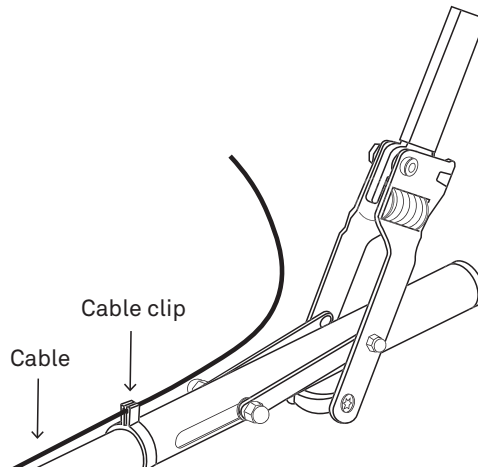

Figure 15 Cable clip on handle
4. Press the sensor cable into the cable clip attached to the handle rod below the lever (Figure 15).